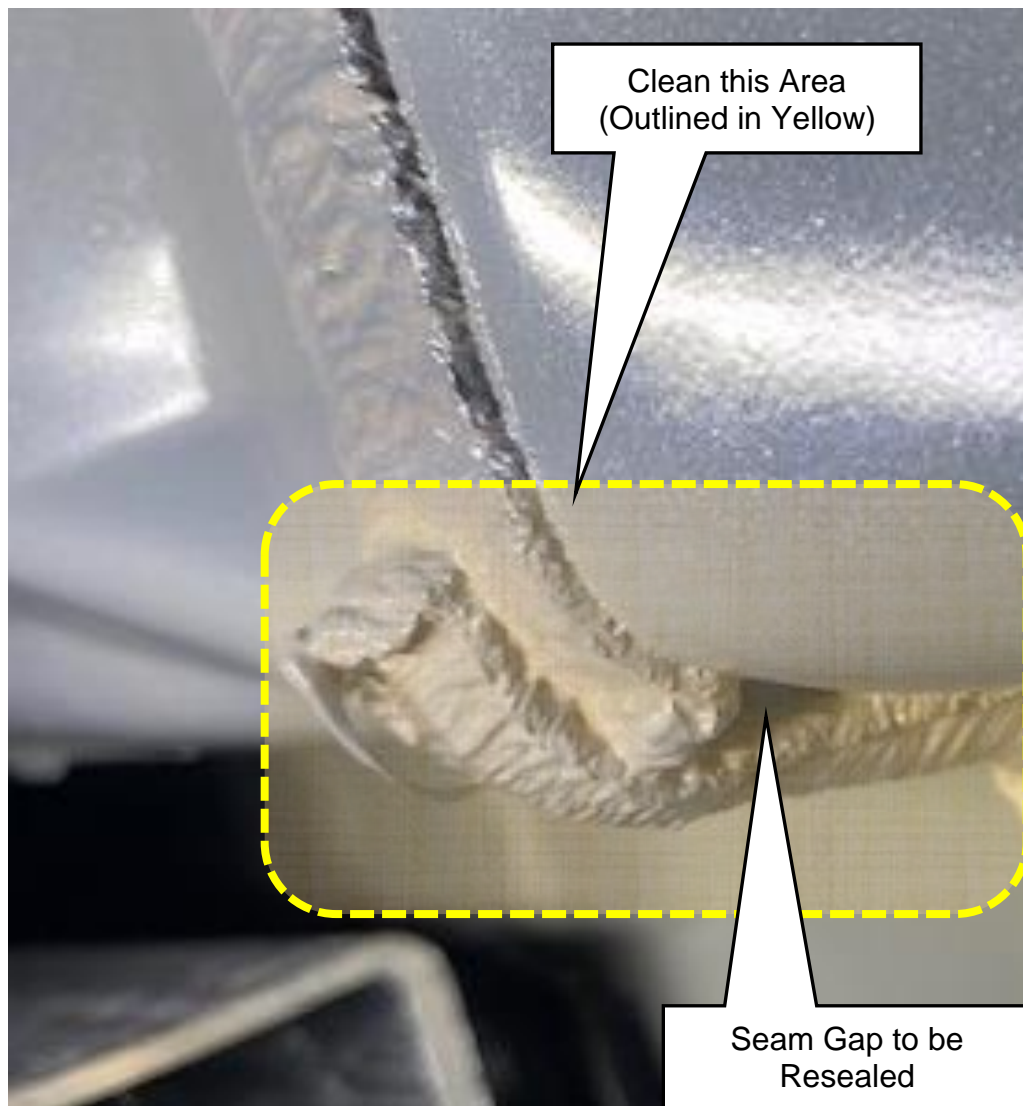

Figure 7
- Using a clean lint free cloth and warm soapy water, clean the area to be resealed (Figure 7)